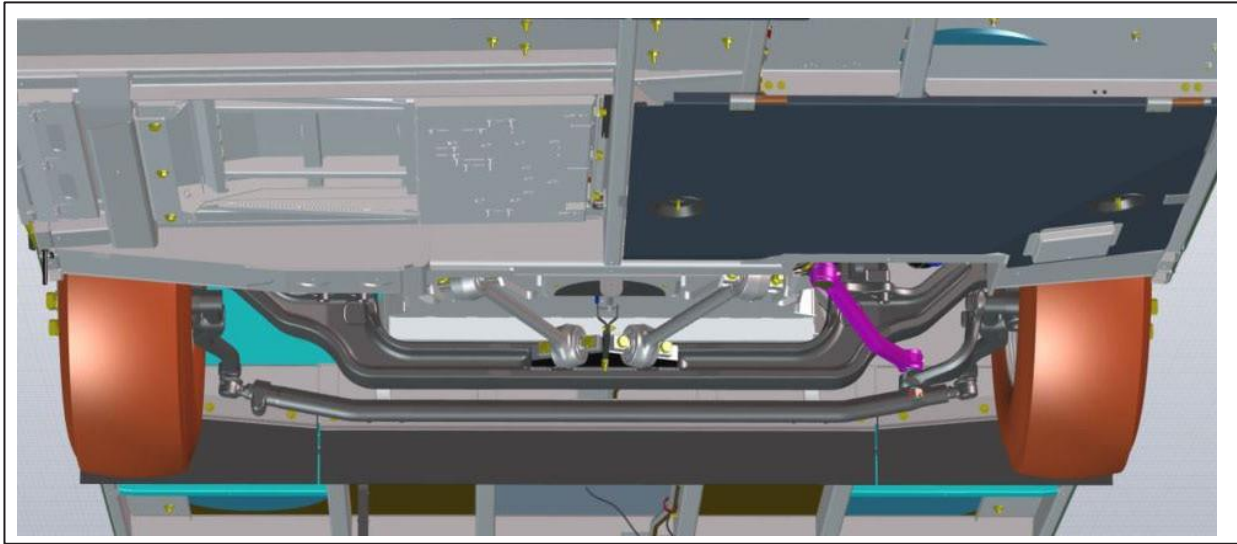

Figure 2 - Front Wheels
- 1.6. Remove the front wheels. Retain the wheels and nuts. See Figure 2.